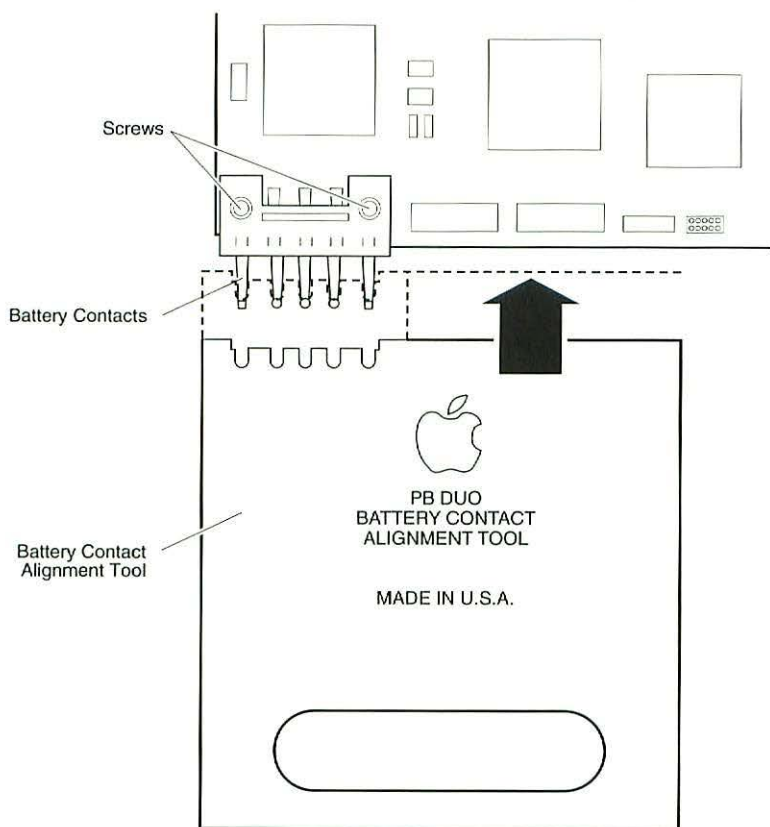

Figure 3 Duo Battery Contact Alignment Tool
- Any time a battery contact screw (Figure 3) is loosened, removed, or replaced.
2. As you slide the battery alignment tool into the battery bay, watch the battery contacts. There should be no resistance or flexing of the contacts. (See Figure 3 for tool orientation.)